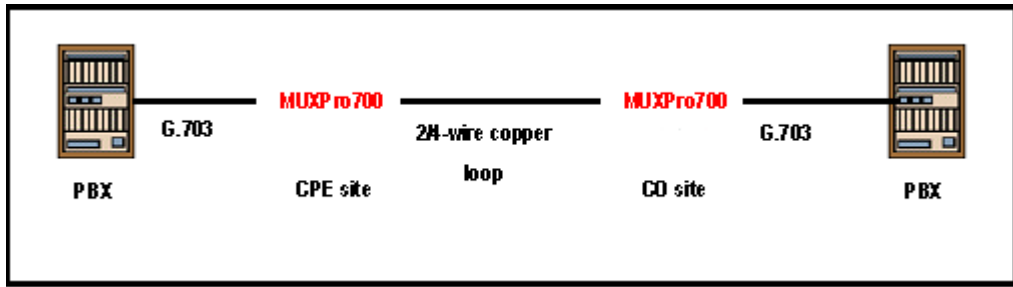
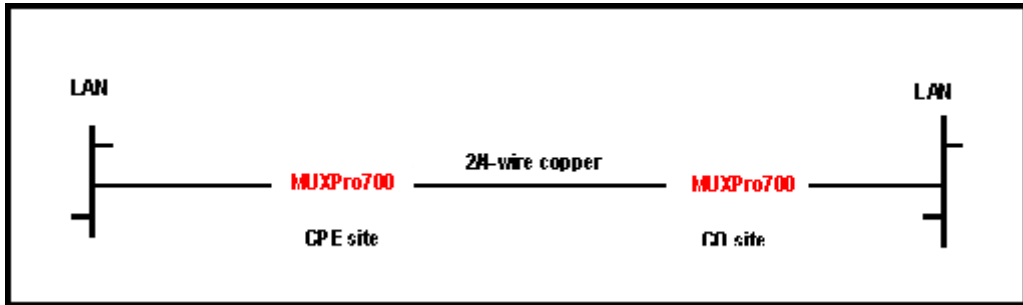

Figure 2-2 Network Application of the MUXpro 700 with G.703 I/F
Figure 2-3 Network Application of the MUXpro 700
The MUXpro 700 is well suited to the campus applications. Figure 2-2 and Figure 2-3 show two general campus applications where remote PBX or routers are interconnected across a campus using two MUXpro 700. One unit is configured as a central office site (CO) unit and the other is the customer premise equipment (CPE) unit.